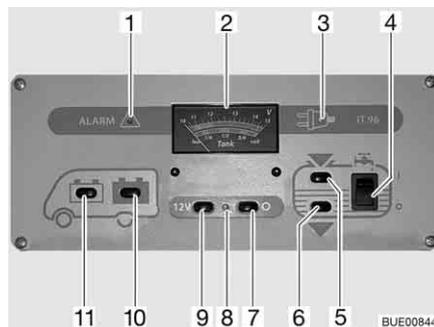

Fig. 135 Panel IT 96-2
The 12 V main switch (Fig. 135,7 and 9) switches the panel and the 12 V power supply to the living area on and off.
- Press switch (Fig. 135,9) "12 V": The 12 V living area power supply is switched on. The indicator lamp (Fig. 135,8) lights up green.
- Press switch (Fig. 135,7) "0": The 12 V living area power supply is switched off. The indicator lamp (Fig. 135,8) goes out.
With the V/tank gauge (Fig. 135,2), note the top scale. The gauge automatically lights up as soon as a switch is pressed.
- Press switch (Fig. 135,11) "🔌": The battery voltage of the starter battery is displayed.
- Press switch (Fig. 135,10) "🔌": The battery voltage of the living area battery is displayed.
The V/tank gauge is for the indication of the quantity of water or waste water. With the V/tank gauge (Fig. 135,2), use the bottom scale. The gauge automatically lights up as soon as a switch is pressed.
- Press switch (Fig. 135,5) : The volume of water is displayed.
- Press switch (Fig. 135,6) : The volume of waste water is displayed.
*Switching on:* ■ Press the upper part of the rocker switch (Fig. 135,4) "I": The water supply is ON.
*Switching off:* ■ Press the lower part of the rocker switch (Fig. 135,4) "O": The water supply is OFF.
The red "ALARM" warning light (Fig. 135,1) flashes as soon as the voltage of the living area battery falls below 11 V (measured under operation) and there is a risk of a total discharge.
The 12 V indicator lamp (Fig. 135,8) illuminates whenever the 12 V main switch (Fig. 135,9) is switched on.
The yellow 230 V indicator lamp (Fig. 135,3) illuminates whenever line voltage is available at the transformer/rectifier input.